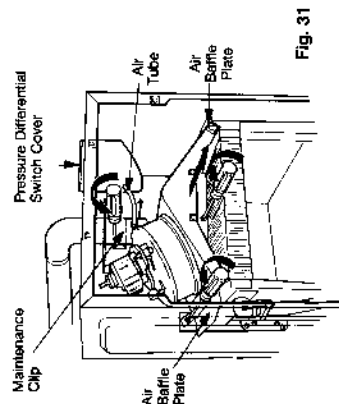

Fig. 31
Part No 5926 Refer to fig 31
8.11.3 Remove 3 screws holding pressure differential switch cover (fig. 31) and remove cover.